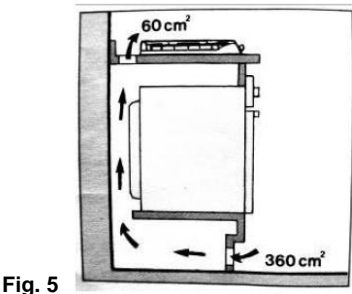
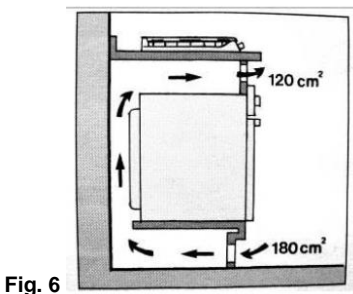

Fig. 5
Fig. 6
- h) In the case of installing a built-in oven under the gas hob, it is recommended to improve the ventilation around the oven, to avoid excessive heating, place a grille for the air intake from the bottom of the oven and another grille on the top, top of the hob (Fig. 5) or in the front-top part of the oven (Fig. 6).